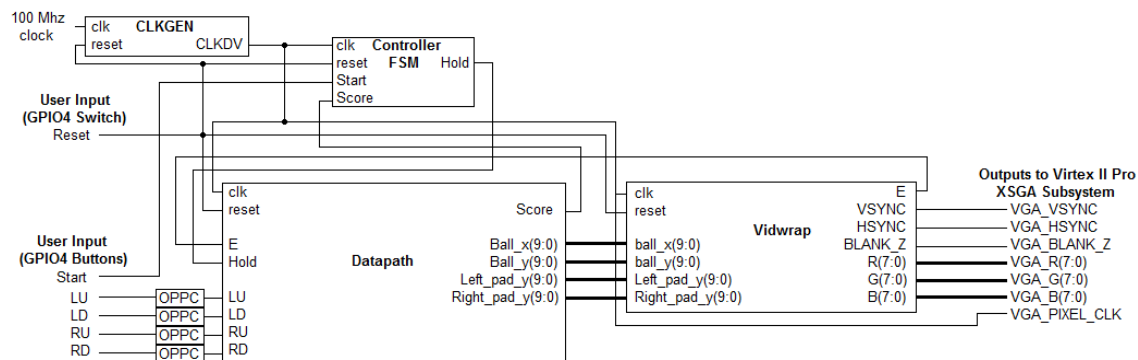

Figure 9: Top-Level Schematic
The top-level schematic for this design is shown in Figure 9. In order to use our design with the VGA port on the FPGA, we will be interfacing with the Virtex II Pro System's XSGA Module.
17. Combine all of the modules designed so far into a top level module, following Figure 9 as a guide. Consult the Lab 6 documentation for instructions on how to create the clock generation module using the IP core generator.